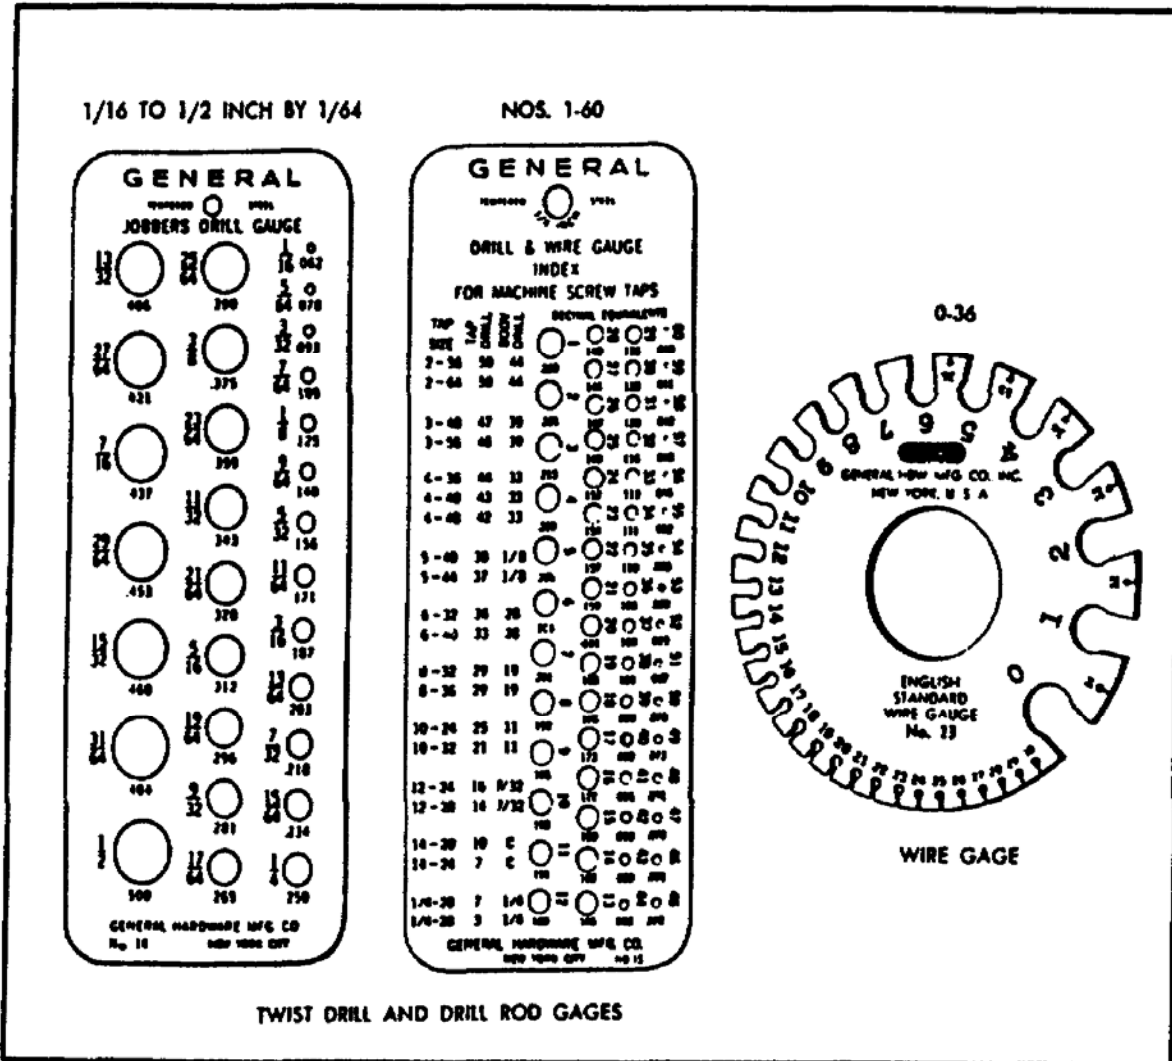

FIGURE 198. DRILL AND WIRE GAGES.
(1) *Twist Drill and Drill Rod.* The twist drill and drill rod gage (figure 198) has a series of holes with size and decimal equivalents stamped adjacent to each hole. One gage measures drill sizes Nos. 1 to 60; the other measures drill sizes 1/16 to 1/2 inch, by 1/64 inch intervals.
(2) *Wire Gages.* A wire gage (figure 198) is circular in shape with cutouts in the outer perimeter. Each cutout gages a different size wire, from 0 to 36 of the English standard wire gage. A separate gage is used for American standard wire and another for U.S. standard sheet and plate iron and steel.